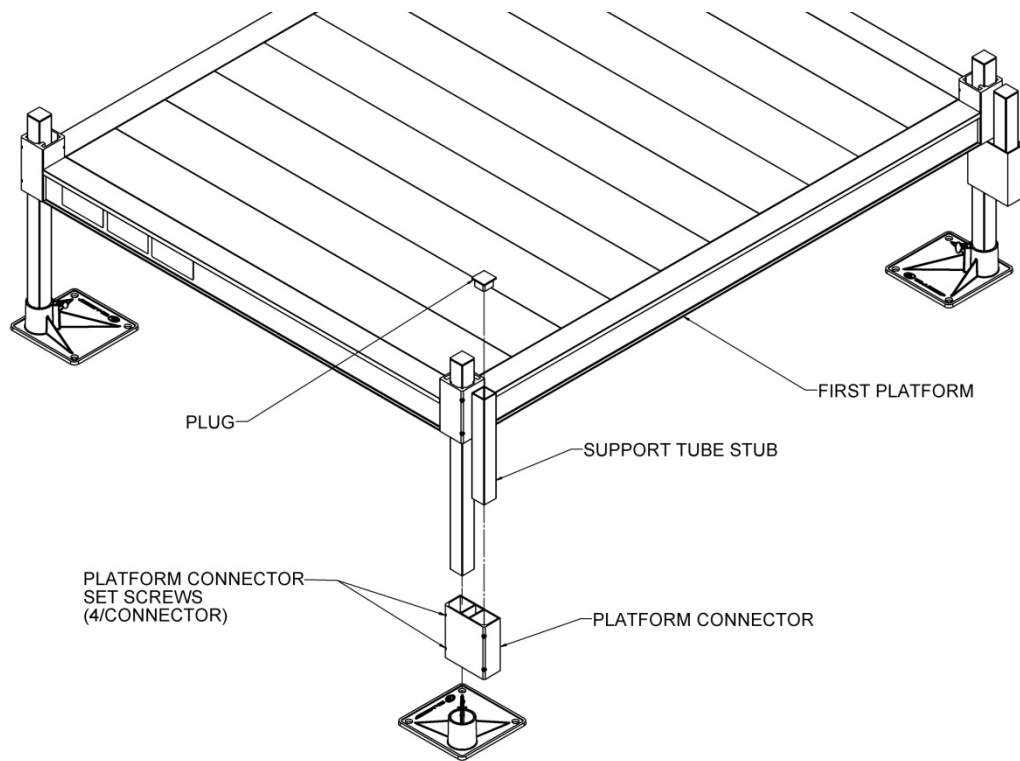

FIG. 2.6
- 2.3.3. Slide the platform connectors up until they contact the bottom of the platform and tighten the set screws securely (FIG. 2.6).